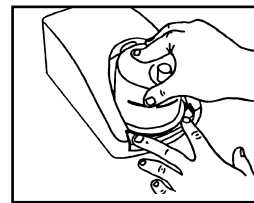

Fig 3
6. To attach the water chamber to the HC220 Series, press down the finger guard and slide the chamber on. (See Fig. 3)